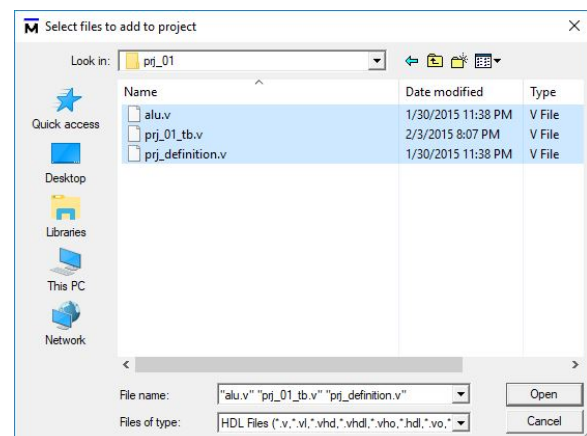

Figure 2.5 Select files to add to project
- After clicking “Browse”, select every Verilog files in figure 2.5 and push “Open” button.